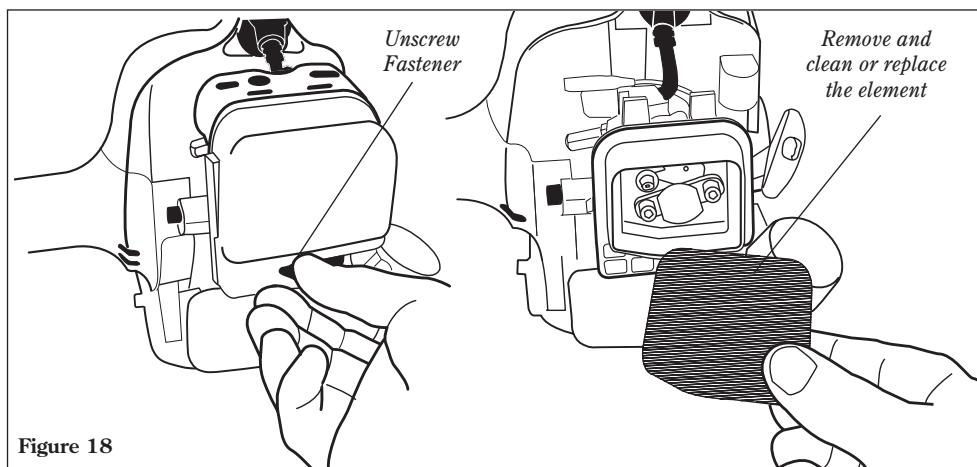

Figure 18
- Remove the air cleaner element. See Figure 18. Clean or replace as necessary. To clean element: wash it thoroughly in soap and water. Let it dry before reinstalling the element.